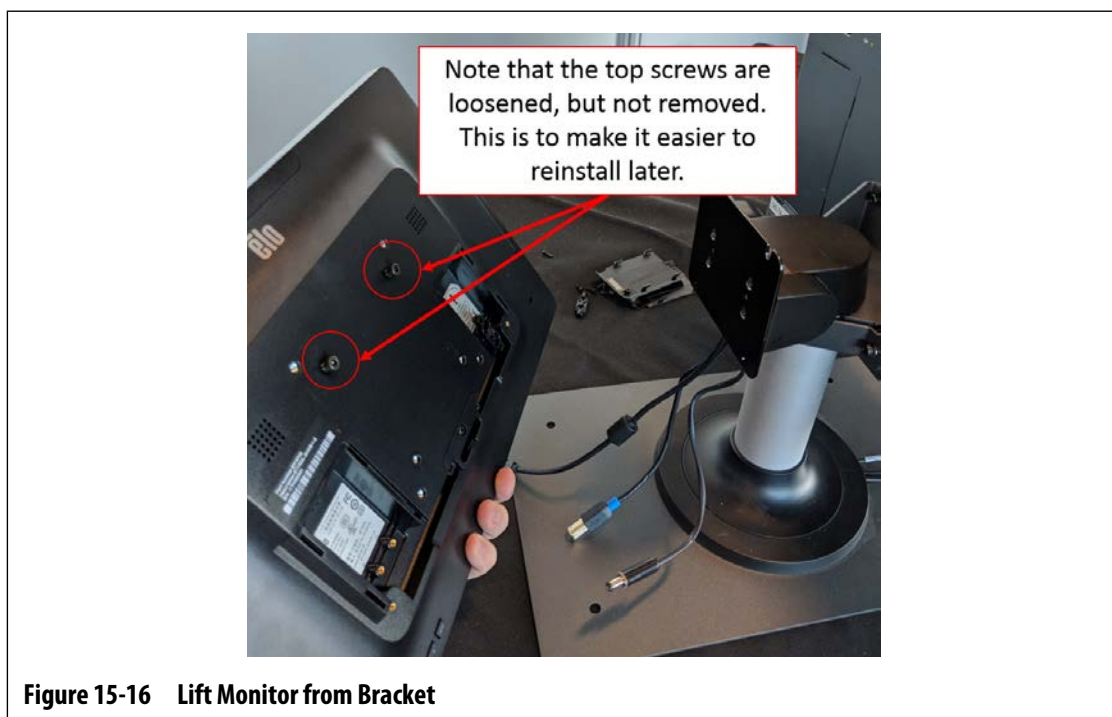

Figure 15-16 Lift Monitor from Bracket
- Securely hold the touch monitor and slide it upwards until the screws have cleared the upper mounting slots and pull forward to remove the touch monitor from the mounting bracket. Refer to Figure 15-16.